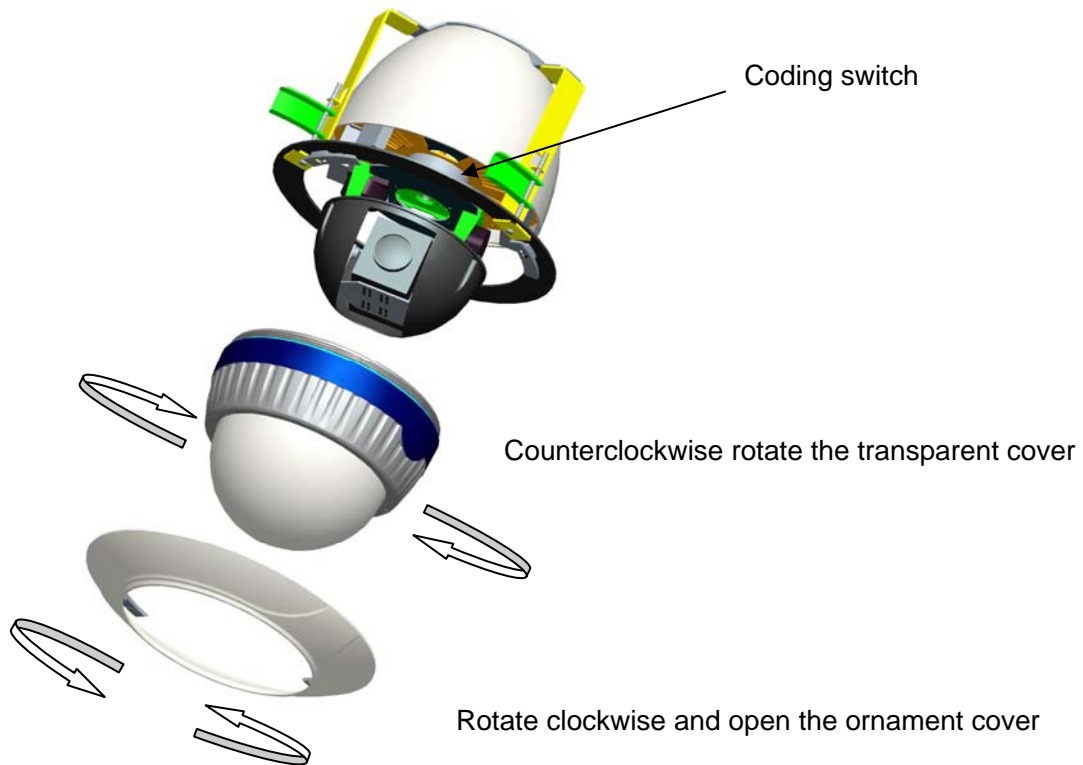

Figure 9
3. Remove the ornament cover by rotating **clockwise**; then remove the transparent cover by rotating it **counterclockwise** (As shown in figure 9).